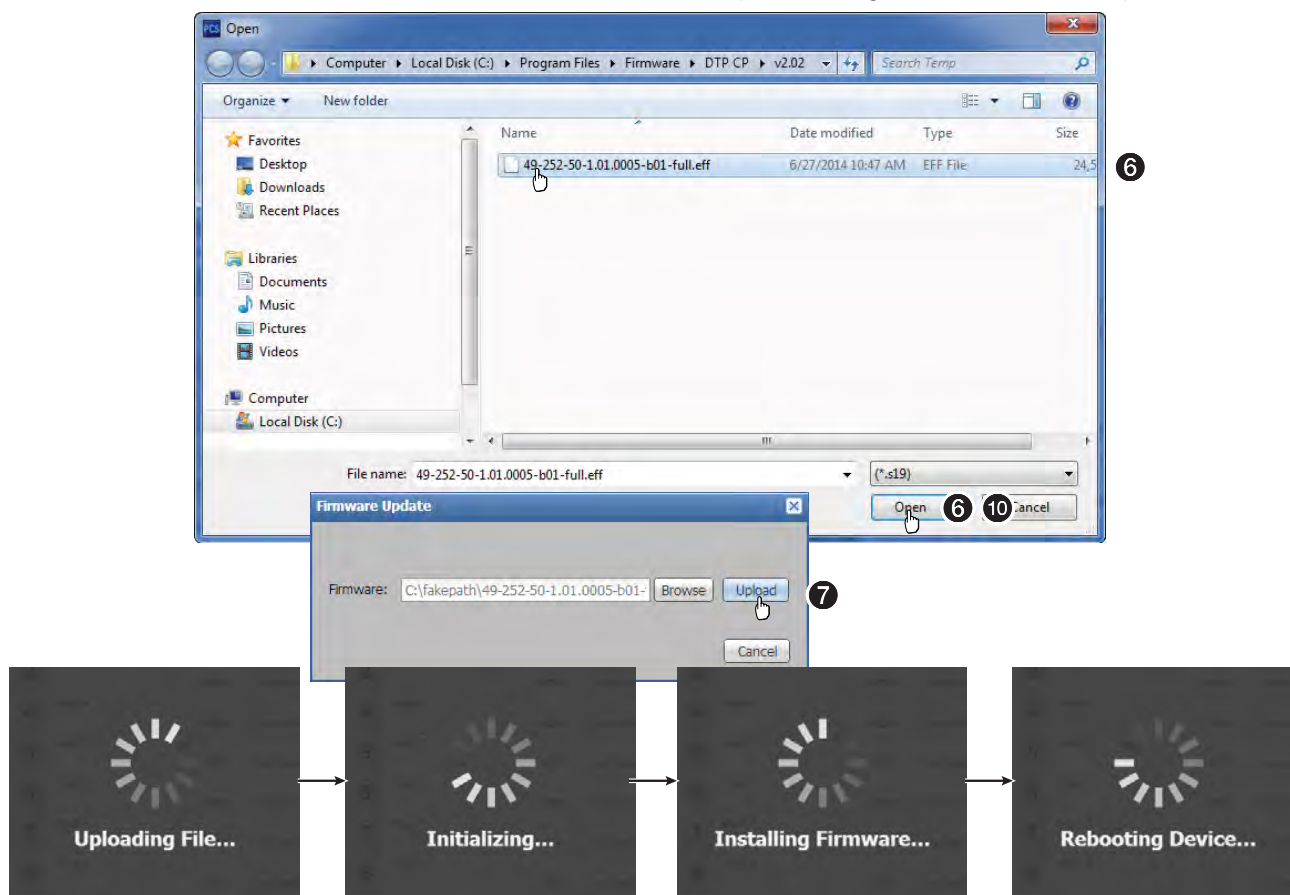

Figure 73. Updating Firmware
6. Navigate to the folder where you saved the firmware upgrade file (see figure 73). Select the file and click **Open**. The Firmware Update dialog box returns to the top.